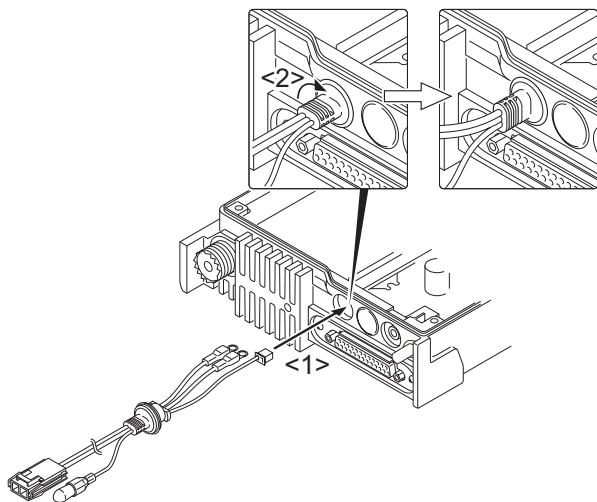

Fig.4-1
- (1) Pass the power supply cable through the chassis hole <1> as shown in Figure 4-1 and insert the bush into the chassis hole.
- (2) Rotate the bush of the power supply cable 90 degrees clockwise as viewed from the rear of the chassis. <2>
- (3) Align the ignition sense connector (yellow) of the power supply cable around the chemical capacitor (C401) and connect it to the Main unit (A/2) connector (CN4).